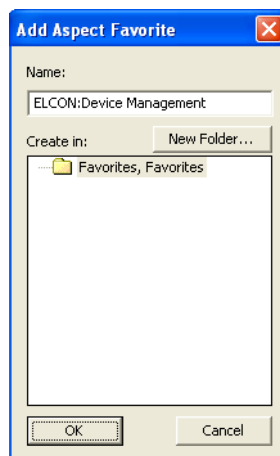

Figure 17. Add Aspect Favorites
3. Click on the **Add** button in the Aspect Menu. The Add Aspect Favorite dialog is displayed in a screen, similar to the one shown in Figure 17, which is used to